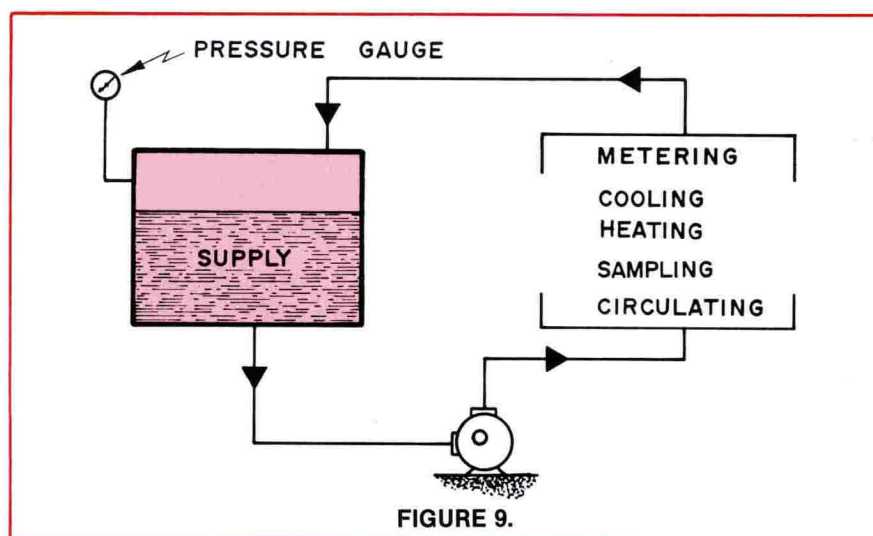

FIGURE 9.
(D) PUMPING IN A SYSTEM HAVING A HIGH INTERNAL PRESSURE. (See Figure 9).